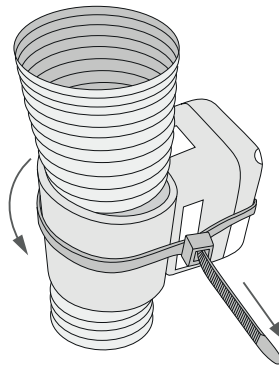

Fig. 03
3. Wrap the hose with the sensor tabs (Fig. 03). It's not a problem if the tabs overlap.